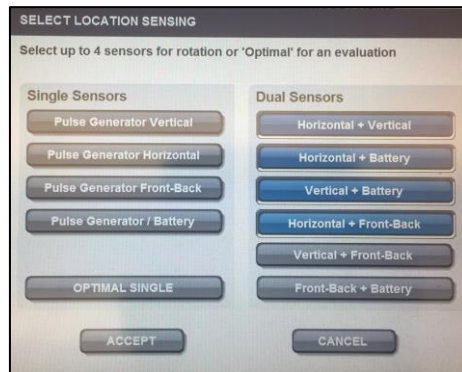

Figure 19: Select Location Sensing dialog box
4. Select the Location Sensing configuration display area to open the Select Location Sensing dialog box (Figure 19). The configuration may be selected from a single sensor or from dual sensor pairs. These pairs represent combinations of sensing electrodes on the exterior of the Transmitter and Battery. Up to four selections can be made and can be mixed between single and dual sensors. The system will dynamically rotate the use of these sensors. The rotation occurs during operation at times when the system determines that sensing is inconsistently targeting the Electrode. Select one to four buttons between the Single and Dual columns. Alternatively, the [OPTIMAL SINGLE] selection is an automated feature which the system uses to self-select a sensing configuration. Select [ACCEPT] or [CANCEL] to close the dialog box.